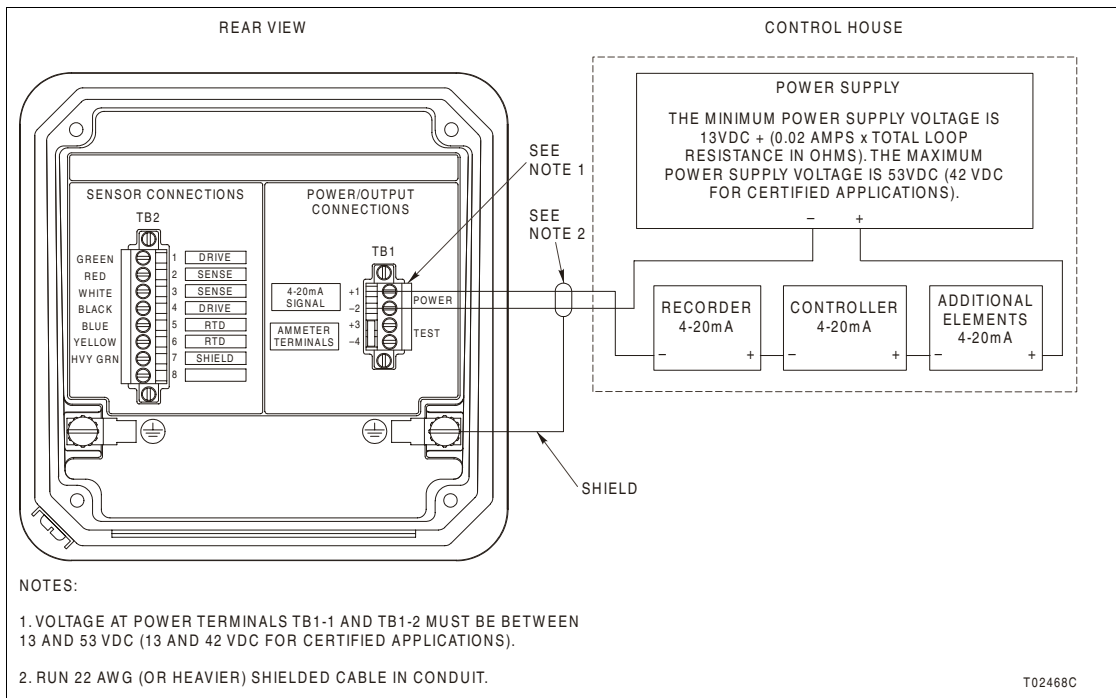

Figure PR5-2. Signal and Power Wiring
- 2. Use the small flat-blade screwdriver to connect the signal and power wiring to TB1-1 (+) and TB1-2 (-) as shown in Figure PR5-2.